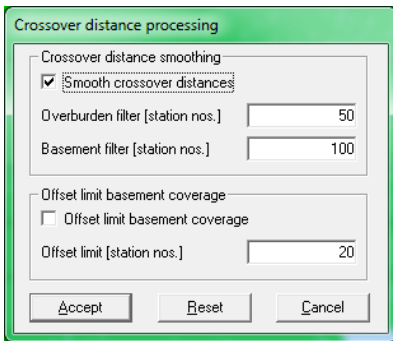

Fig. 11 : press ALT+G to edit crossover dialog
- Press ALT+G, to edit *Crossover dialog* (Fig. 11)